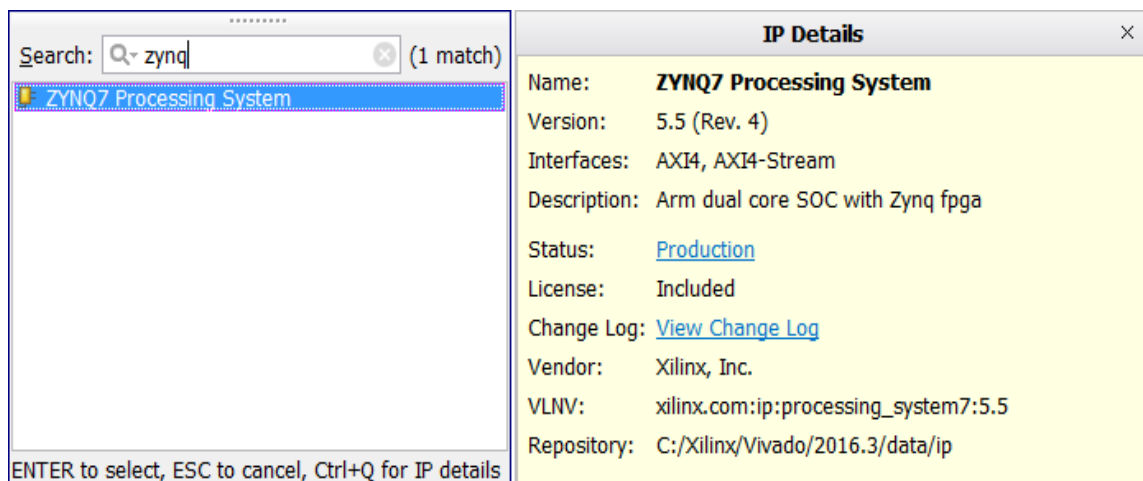

Figure 2-4: Search for Zynq in the IP Catalog
2. Select the **Add IP** option, and a Search box opens where you can search for, and select the **ZYNQ7 Processing System**, shown in Figure 2-4.